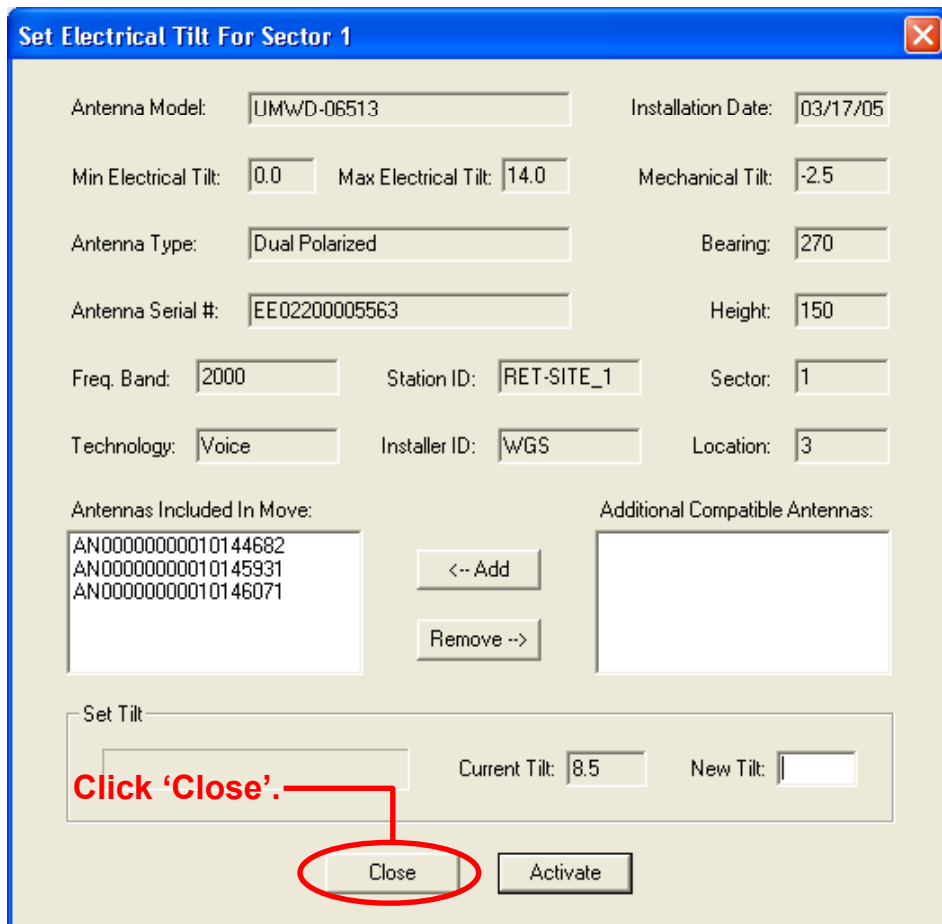

Figure 7-5. Closing Sector Move Screen.
10. The 'Set Electrical Tilt for Sector' screen will display the new electrical tilt setting in the 'Current Tilt' field. At this point, either additional tilt angles may be applied or you may return to the main screen. To return to the main screen, click 'Close' (Figure 7-5).